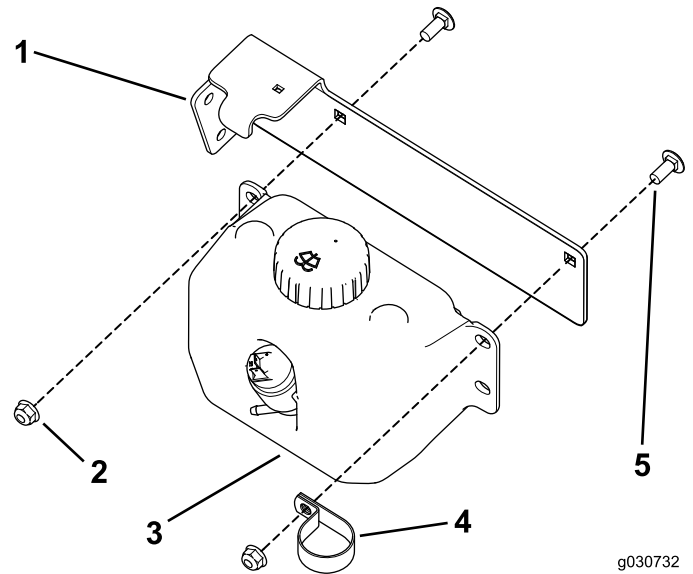

Figure 34
3. Use 2 carriage bolts (5/16 x 3/4 inch) and 2 flange nuts (5/16 inch) to secure the washer bottle and R-clamp to the tank mount (Figure 34).